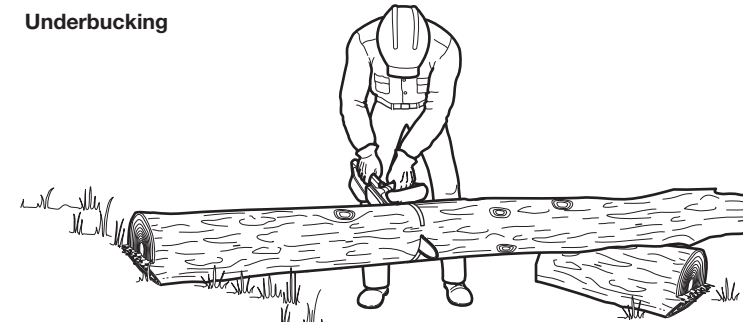

Fig. 17
1. Begin cutting from below, with the top of the saw chain against the bottom of the log (Fig. 17).